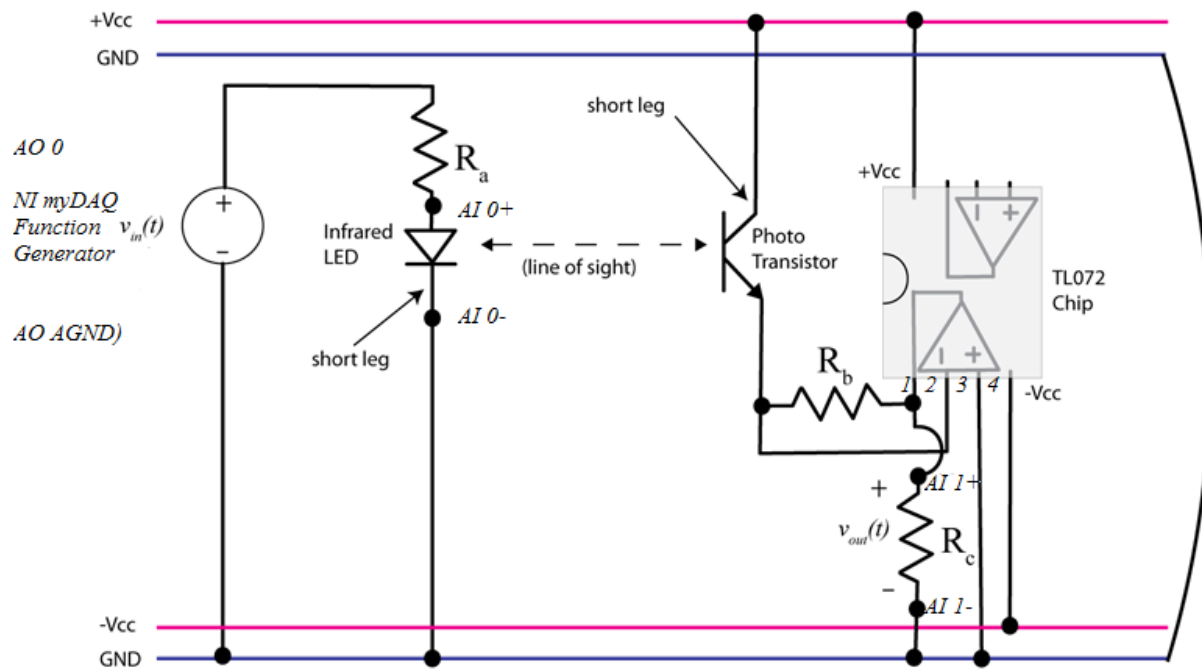

Figure 6: More detailed schematic of the optical transmitter and receiver
2. First, we will build the transmitter on the left of Figure 6. Start building as far as possible to the left side of the breadboard. Get the infrared LED (the clear LED) out of your kit and put it on the breadboard with the short leg on the ground buss. The short leg or the flat part of the rim of the cap on the LED represents ground.